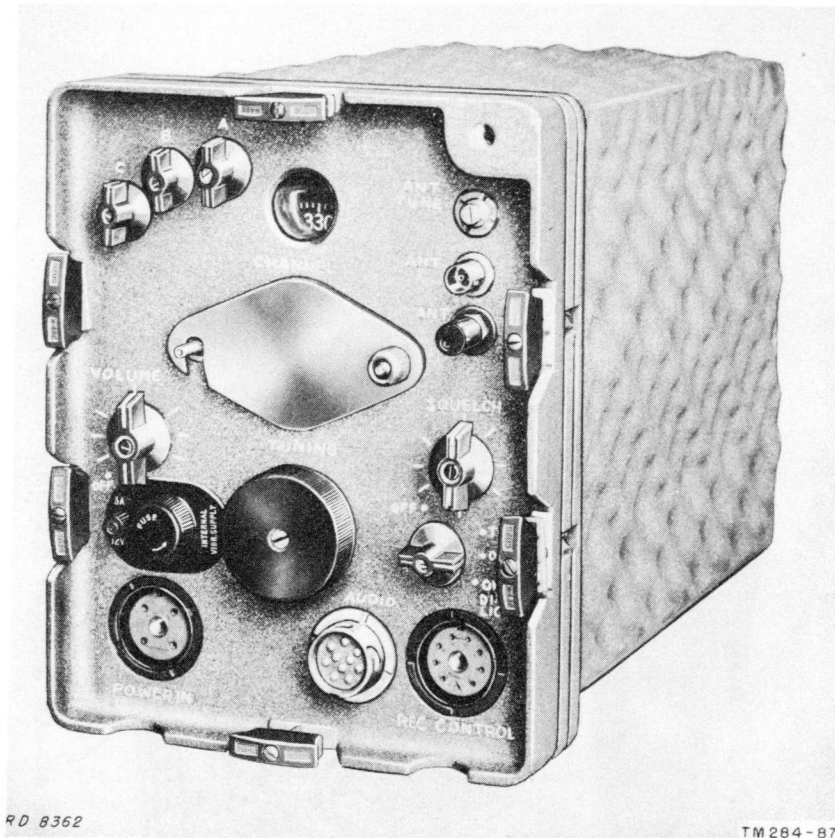

Figure 45.—Radio Receiver R-108/GRC.
54. Auxiliary Receiver.—a. Radio Receivers R-108/GRC, R-109/GRC, and R-110/GRC are used as auxiliary receivers in the radio sets covered in this section. The receivers are very similar in structure, function, and detailed circuit and mechanical arrangement. They differ from each other only in their operating frequency ranges and in those components which determine the frequency range. Therefore Radio Receiver R-108/GRC, Figure 45, is similar externally to the other receivers except for the calibrations of the tuning dial.
c. The controls and instruments of all the auxiliary receivers are the same. The location of controls and instruments are illustrated in Figure 45; their functions are listed in the following chart: